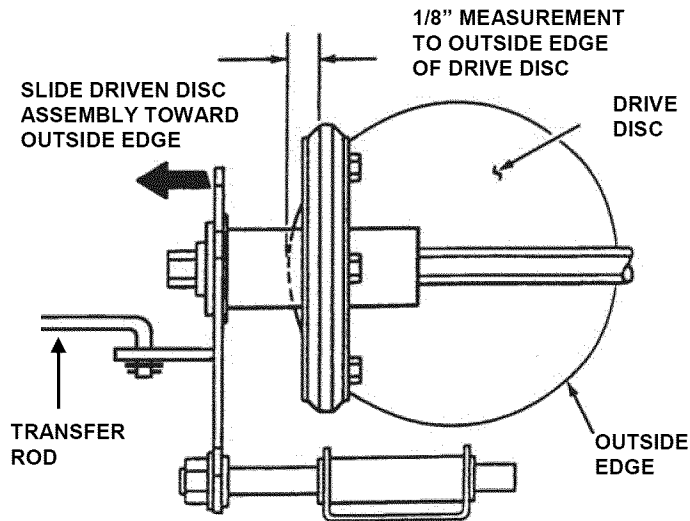

FIGURE 9
2. Manually adjust driven disc to position shown in Figure 9.
6. Slide Ground speed lever back, then fully forward again. Check driven disc position. If needed, repeat #5 above until 1/8" in Figure 9 is maintained, then tighten jam nut securely against ball joint.